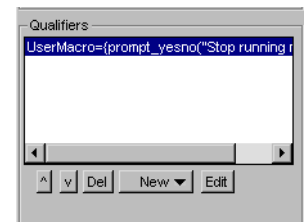

Figure 5-18 Set breakpoint with macro attached
7. The Set Address/Data Breakpoint dialog box now contains the macro in the Qualifiers group for the conditional breakpoint, shown in Figure 5-18.